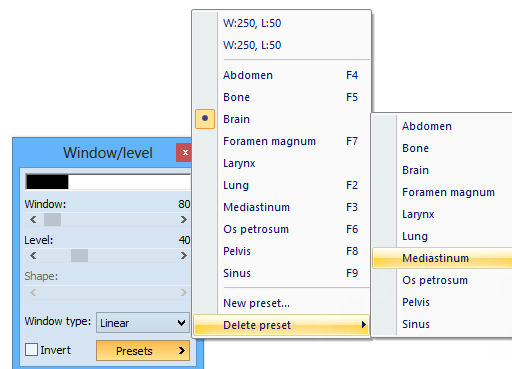

Figure 150 – Deleting a window/level preset
3. Select the preset you want to remove in the displayed submenu list (see Figure 150).